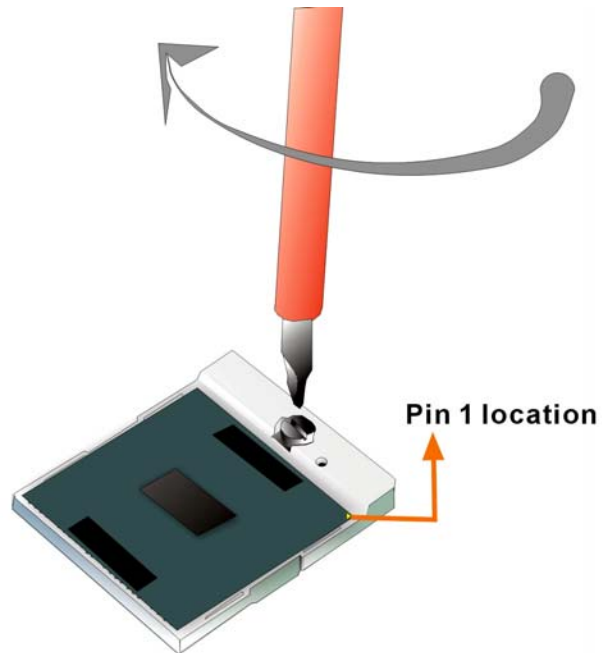

Figure 4-2: Lock the CPU Socket Retention Screw
- iv. Rotate the retention screw into the locked position. (**Figure 4-2**)